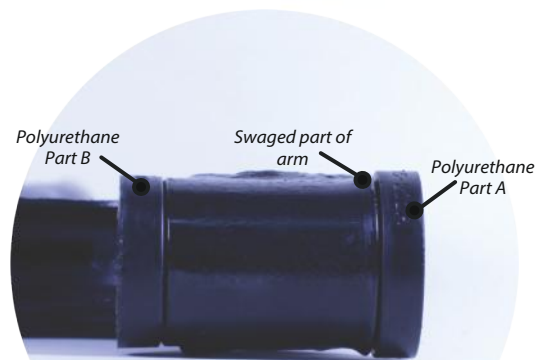

Figure 2 - which way to fit the bushes in the arm
3. Insert part A, with the radius under the lip, from the front of the car. Insert part B, with no radius, from the rear of the car, as shown in Figure 2.